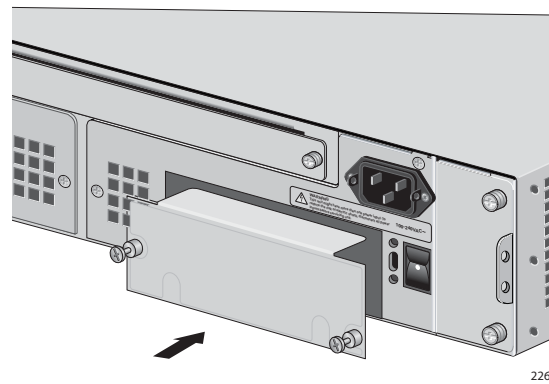

Figure 6. Inserting an AT-CV5PNL2 Blank Slot Cover
- Slide the blank slot cover into the slot, as shown in Figure 6, until the slot cover is flush with the front of the chassis.